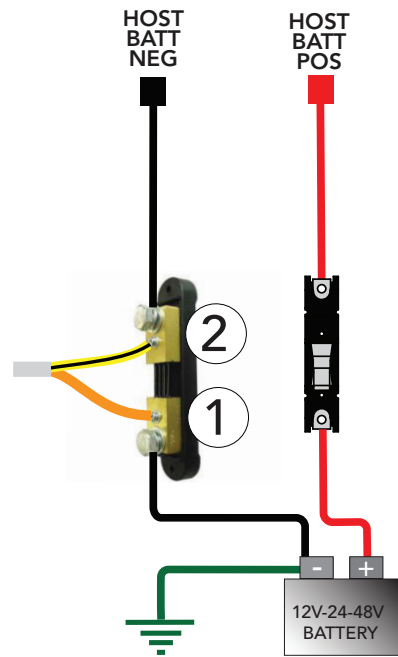

Figure 5-1. Negative Leg Shunt
**Step 2.** Install the shunt(s) on the circuit(s) to be measured, as seen in Figures 5-1 or 5-2, below. When installing more than one shunt in a system, wire all shunts with the same polarity.
**Step 3(A) or (B). Shunt to ReadyShunt Wiring**
**A. Negative Leg Installation** (see Figure 5-1 below).